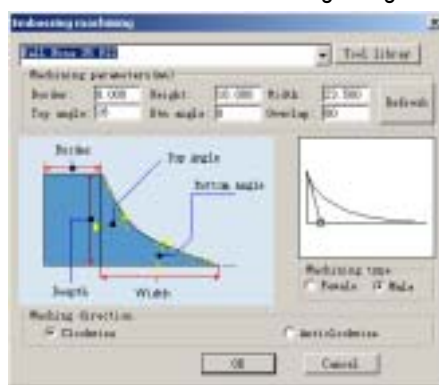

Fig. 10-52
1. Select the object, and click on the shortcut icon  in Tool Path Bar or click Tool path->Embossing machining in the menu bar. Then the dialog in Fig. 10-52 is displayed.